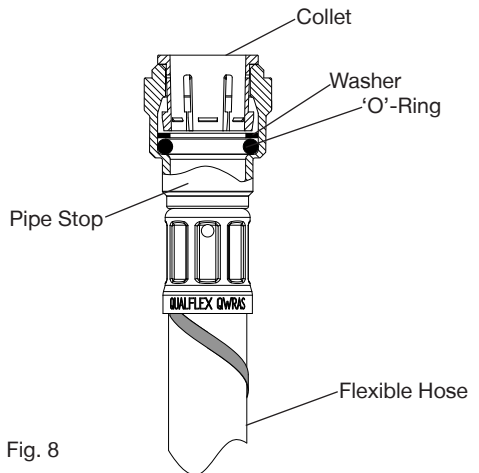

Fig. 8
3. Check in the mouth of the fitting that the 'O'-ring, nylon washer and collet are in position as shown in Fig. 8.